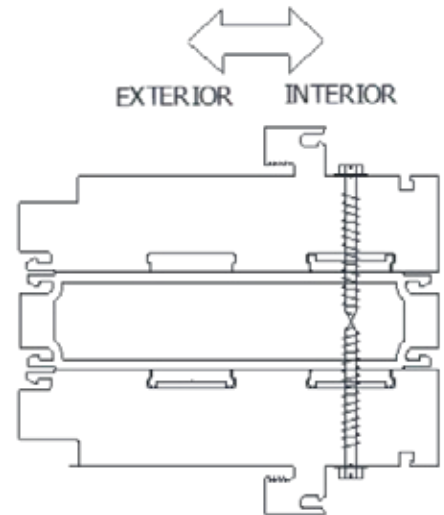

Figure 5
- 2. Clamp** the French Door mullion to the door frame. Pre-drill the mullion with a 9/64" drill bit. Attach mullion to door frame using assembly screws (not included; Figure 5). Do not over tighten assembly screws. This can cause frame distortion.
- 4. Clamp** the sidelite to the French Door mullion. Attach the sidelite to the mullion using assembly screws (not included; Figure 5). Do not over tighten assembly screws. This can cause frame distortion.